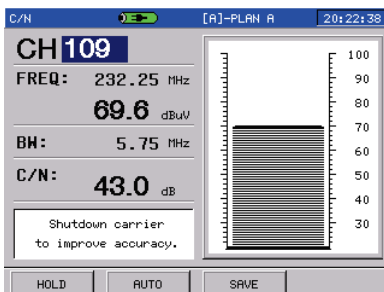
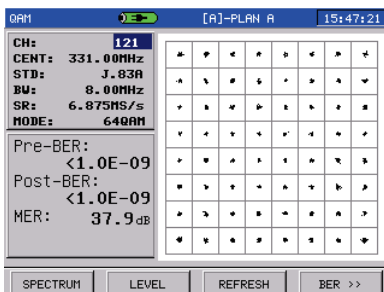

Figure 3-4-3
Figure 3-4-4
**C/N or QAM(F2):** If the current channel is analog channel, F2 shows C/N, otherwise shows QAM. Press C/N soft key to enter the C/N measurement interface as Figure 3-4-3, press QAM soft key to enter QAM measurement interface as Figure 3-4-4.